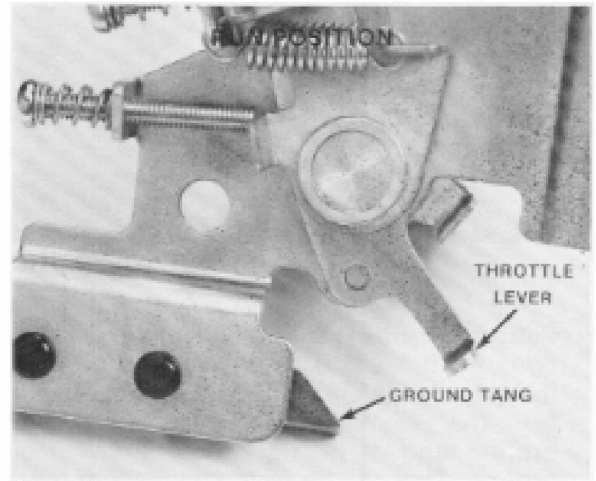

Figure 3-13
2. When the throttle control is in the "run" position, the throttle lever should move away from the ground tang. See Fig. 3-13.